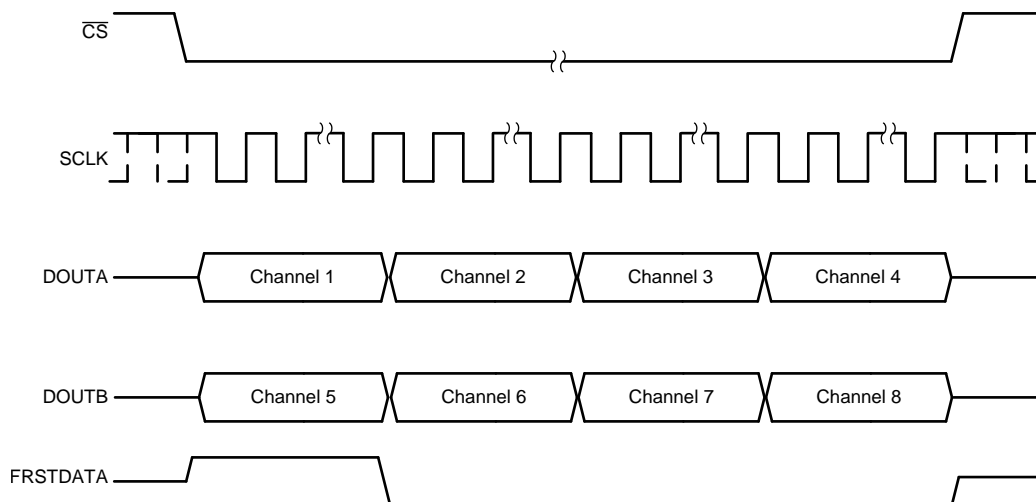

Figure 70. Data Read Back in the Serial Interface Using Both DOUTA and DOUTB Timing Diagram
- In order to minimize the time for the data read operation in serial mode, both DOUTA and DOUTB can be used to read data out of the device. In this case, the conversion results from the first set of channels (channels 1-4) appear on DOUTA and the conversion results from the second set of channels (channels 5-8) appear first on DOUTB. To read the data for all channels, provide a total of $18 \times 4 = 72$ SCLK cycles. This entire data frame can be created within a single $\overline{\text{CS}}$ pulse or each group of 18 SCLK cycles can be individually framed by the $\overline{\text{CS}}$ signal. Figure 70 shows this operation.